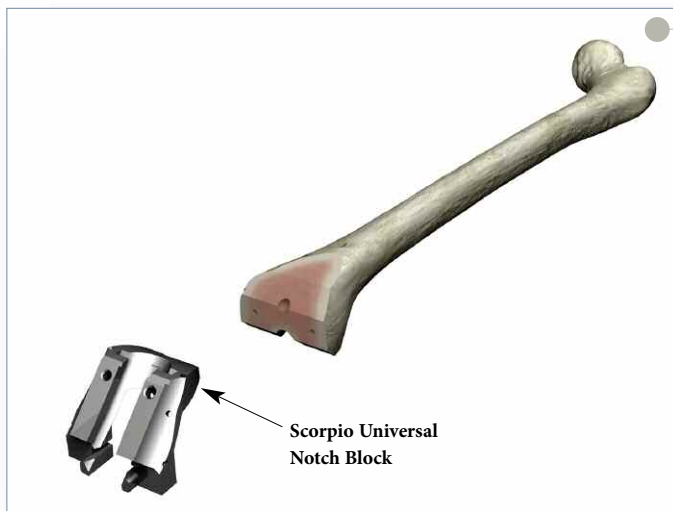

Figure 29
► Position the Notch Block on the prepared distal femur, aligning the lugs with the holes made by the Femoral Cutting Guide. Tap into place with the mallet (**Figure 29**). To further aid the positioning, if using pegless blocks, note that the block is also the same width as the implant of its respective size.